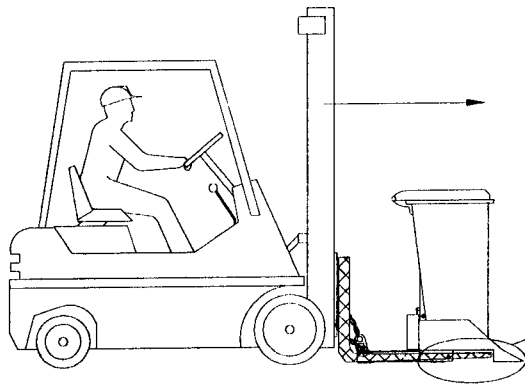
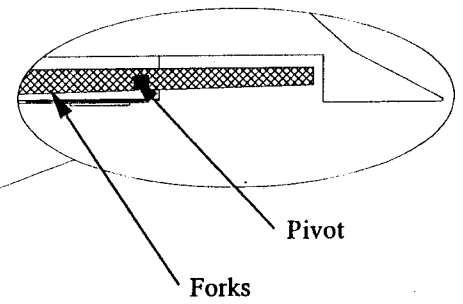

Fig. 4.4A
Fig. 4.4B
- g) To prevent this, move the forklift forward until the carriage is against the rear of the Wheelie Bin Tipper as shown in *Fig. 4.4A*. Now the ends of the fork are in front of the self-tipping bin pivot as shown in *Fig. 4.4B*. Though the attachment tips forward a little, it is now supported by the forks and will not tip over.
- h) With the Wheelie Bin Tipper positioned as shown in *Fig. 4.4A*, on the forklift, it can be lifted and moved safely.